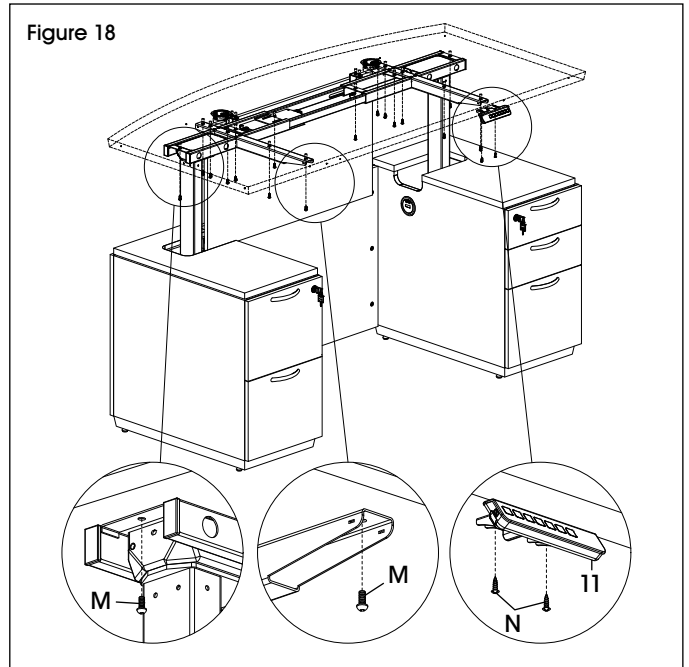

Figure 18
18. With a second person, carefully place desktop (1) on top of the adjustable height frame. Hanging modesty panel (3) should rest inside of the modesty panel (2). Attach the desktop using 16 M6 x 14 mm bolts (M). Attach handset (11) using two ST5 x 16 mm screws (N). (See Figure 18)